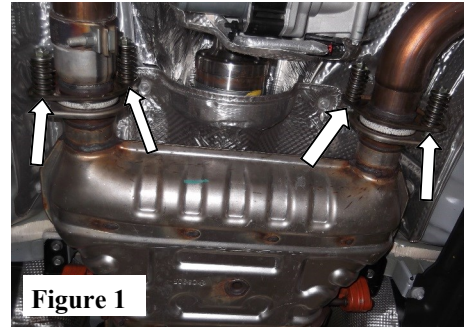

Figure 1
2. Loosen and remove nut, washer and spring on front flanges. Keep hardware for installation of your new exhaust system. (See Fig. 1)